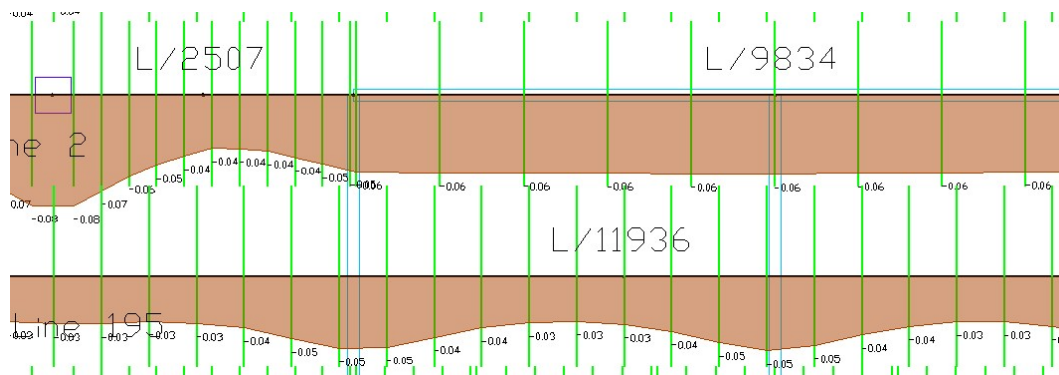

FIGURE 6.8-7 DEFLECTION RESULTS ALONG SUPPORT LINE
- From **Floor Design | Strip Results/Visibility | Display Graphically**, turn on the support lines in either direction, and the program will report the deflection ratio (X/L) for each span as shown in **Figure 6.8-7**. Note also that the deflection value for each design section is shown. The same display of results can be produced for any action (i.e. moment, shear, axial) when the result to be displayed is set for an **Action** and the **Display Graphically** tool is active.